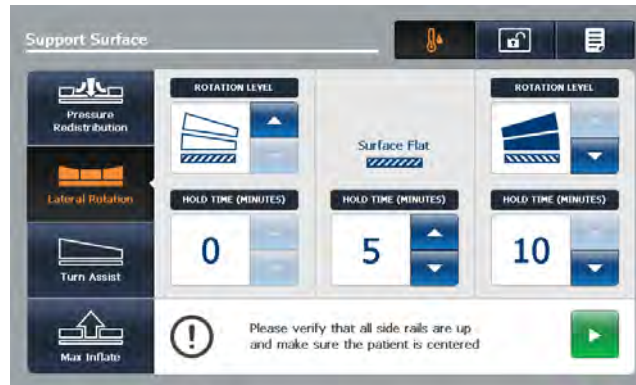

Figure 1-55: Starting a one-sided Lateral Rotation
2. Tap **Up** on the opposite side to the desired angle (Figure 1-55 on page 1-65).
3. Set the desired hold time (Figure 1-55 on page 1-65).